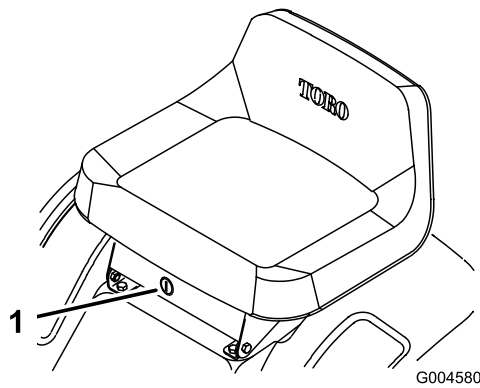

Figure 13
If you need to use the PTO while backing up, turn off the interlock feature using the KeyChoice switch located near the seat bracket (Figure 13).
2. Insert the KeyChoice key into the switch (Figure 13).